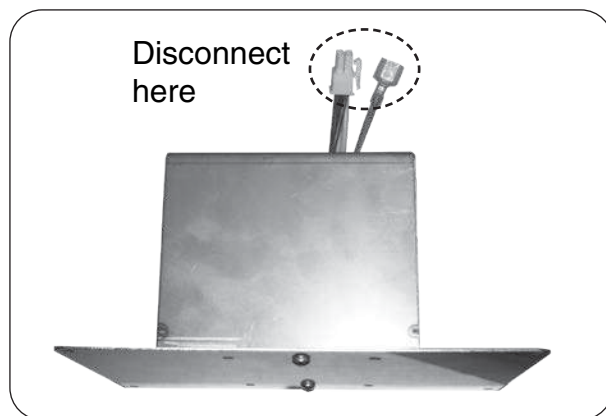

Fig. 40-2 Disconnect wire harness and ground wire (and power cord)
3. Disconnect the power supply cord. Then disconnect the wire harness and ground wire (see Fig. 40-2). Completely remove the box from the enclosure for ease of fuse replacement.